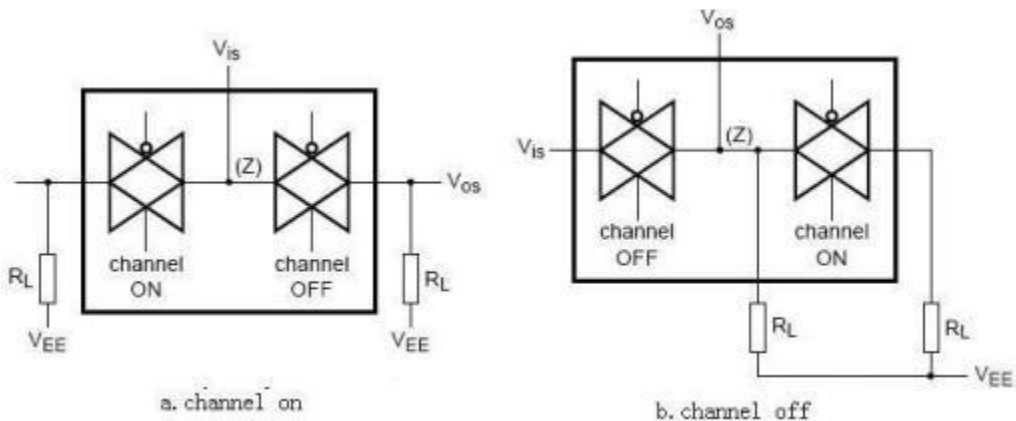

Figure 11. Inter channel Crosstalk
- [2] $R_L=1k\Omega$; $20\log V_{os}/V_{is}=-50dB$, see Figure 11.